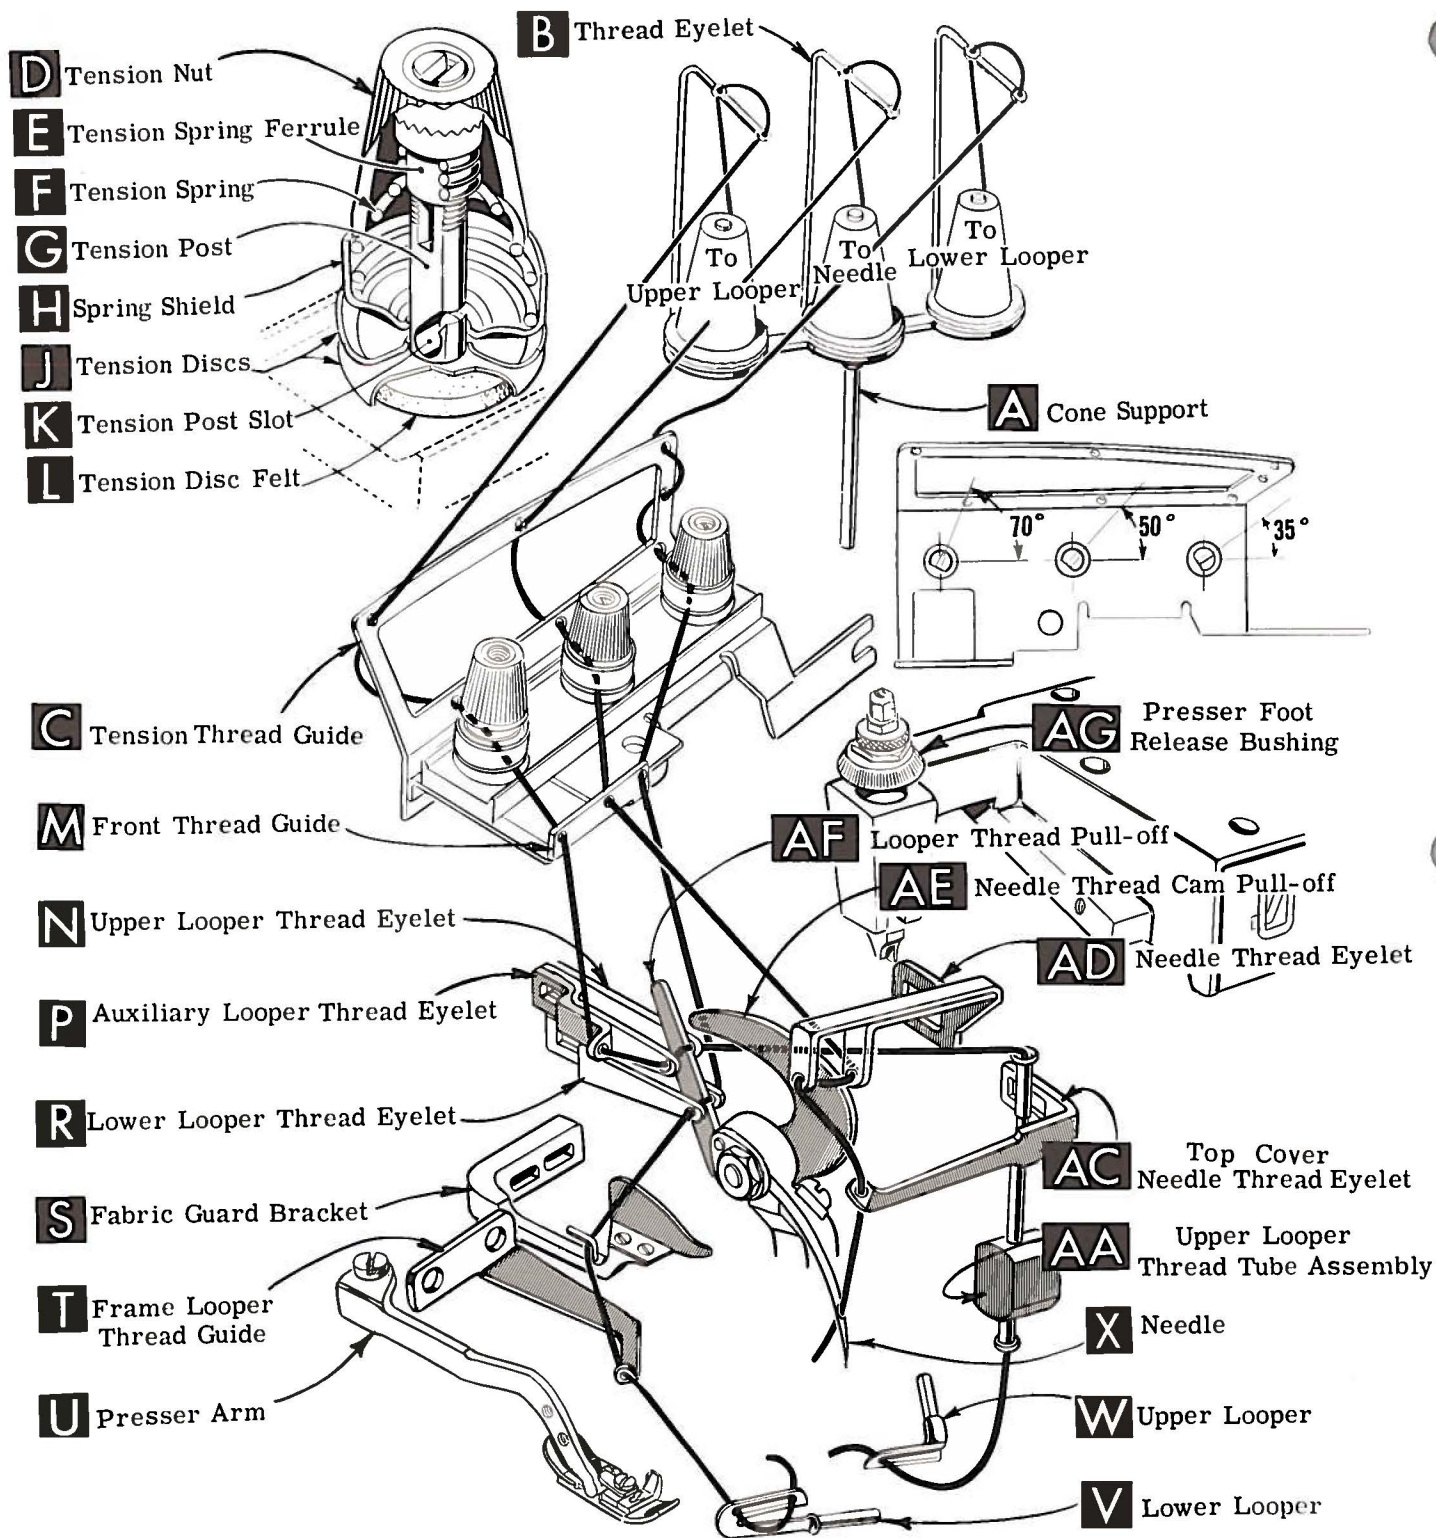

Fig. 1
Release pressure on presser foot by turning presser foot release bushing (AG, Fig. 1 or 1A) and swing presser arm (U) out of position. Turn handwheel in operating direction until needle is at its lowest point of travel. Using hexagonal socket wrench No. 21388 AU, furnished with machine, loosen needle clamp nut about 1/4 turn. Again turn handwheel until needle is at high position. Withdraw needle.
After thread comes from cones on cone support (A, Fig. 1 or 1A) it is brought up through the back hole of thread eyelet (B), then down through the front hole of thread eyelet. Next it is threaded through the upper hole of tension thread guide (C) from front to back and then through the lower hole from back to front.
Only parts involved in threading are shown in threading diagram (Fig. 1 and 1A). Parts are placed in their relative positions for clarity.
Be sure the threads, as they come from the tension thread guide (C) are between tension discs (J) and in tension post slot (K) in tension post (G). The tension posts should be positioned so the tension post slot will be at the approximate angle for the different threads as indicated in Fig. 1 and 1A.
Thread lower looper thread through right eyelet of front thread guide (M). Then double end of thread and lead it through both eyes of lower looper thread eyelet (R, Fig. 1) from right to left. Note: thread must pass in front of looper thread pull-off (AF). Lead thread behind fabric guard (S) and through eyelet hole of frame looper thread guide (T). Turn handwheel in operating direction until heel of lower looper (V) is all the way to the left; then thread through both eyes from left to right. Left eye of lower looper can be threaded easily if tweezers are in left hand.
Thread upper looper thread through left eyelet of front thread guide (M, Fig. 1 or 1A). Turn handwheel until point of upper looper (W) is all the way left. Lead
Thread needle thread through middle eyelet of front thread guide (M). Then turn handwheel in operating direction until needle (X, Fig. 1) is at its highest position. Insert needle thread from right to left, through both eyes of needle thread eyelet (AD), under neck of top cover casting; then down through hole in top cover needle thread eyelet (AC). Thread needle from front.
The amount of tension on needle and looper threads is regulated by the tension nuts (D, Fig. 1 and 1A). Tension on threads should be only enough to secure proper stitch formation.
Be sure machine is threaded according to threading diagram (Fig. 1).
To increase thread drawn on downstroke, position needle thread eyelet (AD, Fig. 1) farther to the rear. With needle at the bottom of its stroke, position needle thread eyelet (AD), so that needle thread cam-off (AE) just contacts the needle thread.